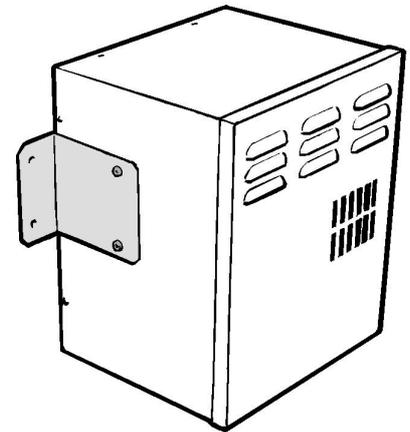

Figure 22.
3. If the fan box is to be sited totally outside the wall fit the brackets with the short flanges flush with the air intake end of the fan box (See figure 22).